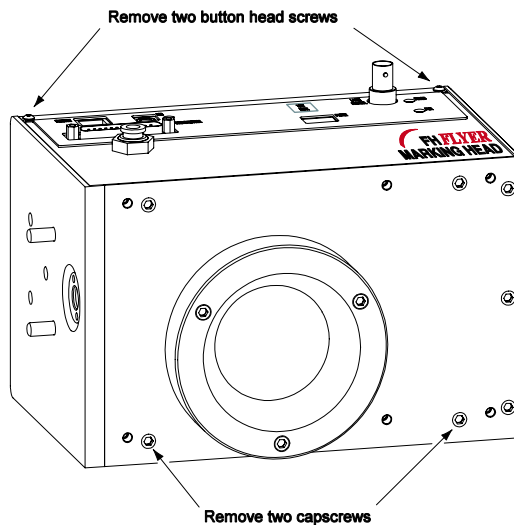

Figure 3 Opening Flyer to enable FASI
- 2 Refer to Figure 3 and withdraw two button head Allen screws and two Allen head capscrews at the locations shown to remove Flyer’s upper cover.